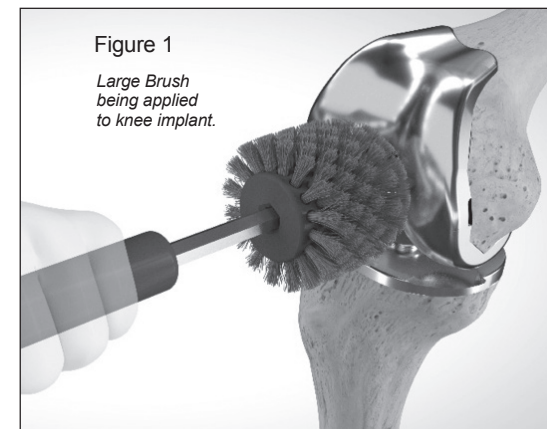

Figure 1
3. Debride by applying the rotating brush head to the wound, soft tissue, bone, or implant as shown in Figure 1.